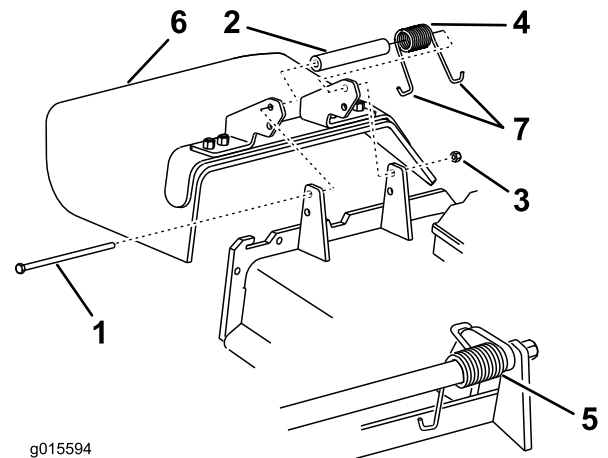

Figure 111
1. Remove the locknut, bolt, spring, and spacer holding the deflector to the pivot brackets (Figure 111).
2. Remove the damaged or worn grass deflector (Figure 111).
Note: Make sure that 1 J-hook end of the spring is installed behind the deck edge before installing the bolt as shown in Figure 111.
6. Place 1 J-hook end of the spring around the grass deflector (Figure 111).